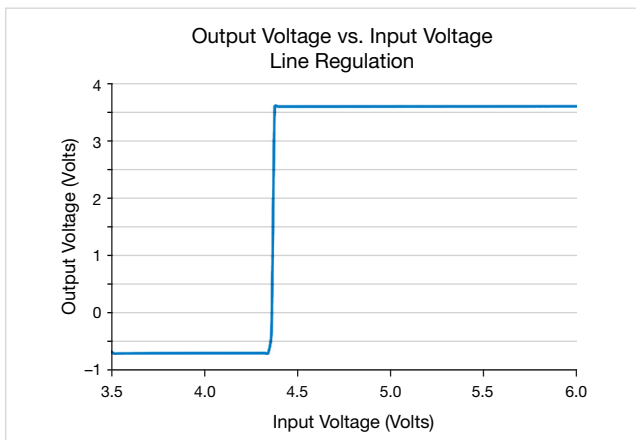

Figure 6. Plot of DC-DC converter line regulation measured using a single Model 2612B SourceMeter SMU instrument.
**Figure 6** shows the result from a typical line regulation test. This test was performed using a Model 2612B SMU. One channel of the Model 2612B (SMU CH1) was configured to sweep voltage on the input terminal of the device. The second channel of the SMU (SMU CH2) was configured to measure the output voltage. From the I-V data, the line regulation percentage can be easily calculated.